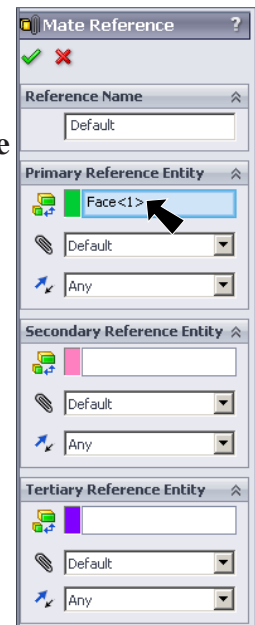

Fig. 7
Step 3. In the Mate Reference Property Manager click OK , **Fig. 7**.